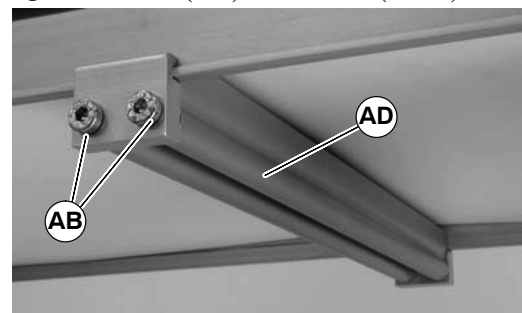

Figure 12
3. Install roller assembly as shown (AD of Figure 12). Tighten screws (AB) to 60 in-lb (7 Nm).